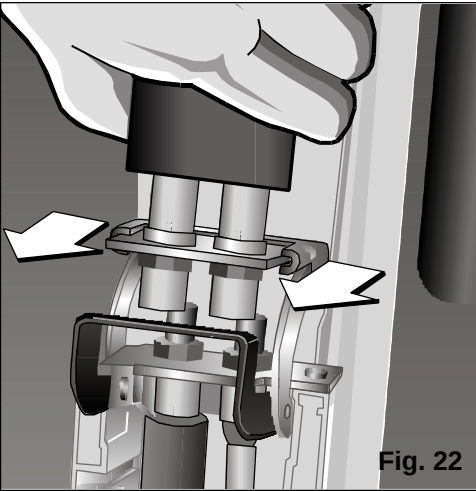

Fig. 22
□ Pull the hose off its housing guides. Fig. 22.